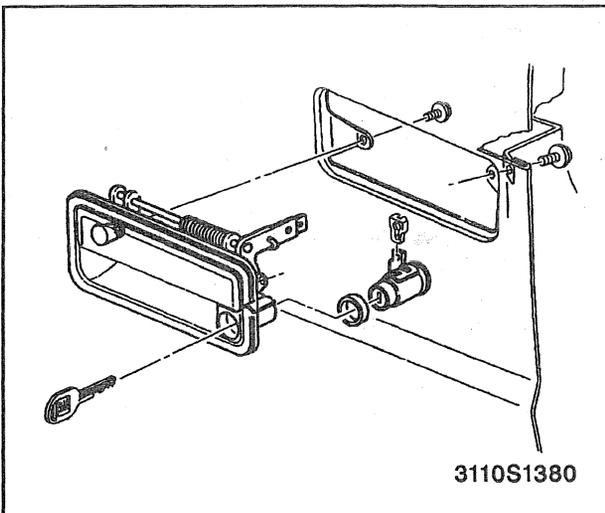

Figure 29—Lock Cylinder and Outside Door Handle
6. Outside handle mounting screws (figure 29).
1. Handle to the vehicle (figure 29).